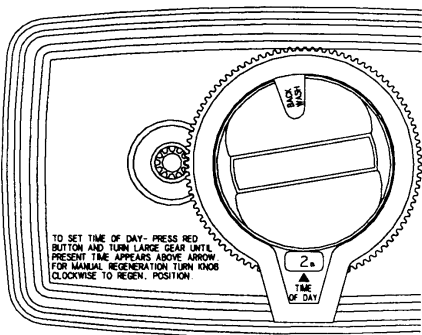

Figure 7
5. Manually advance the conditioner control to the backwash position by turning the center knob clockwise until "backwash" appears in the window (Figure 7). While in the backwash position, move the bypass lever toward the service position slightly to allow the softener tank to slowly fill with water. This will remove all air through the drain line. When all the air is removed and a steady stream of water can be seen at the drain, move the bypass lever all the way to the service position. Run until the water at the drain is clear.